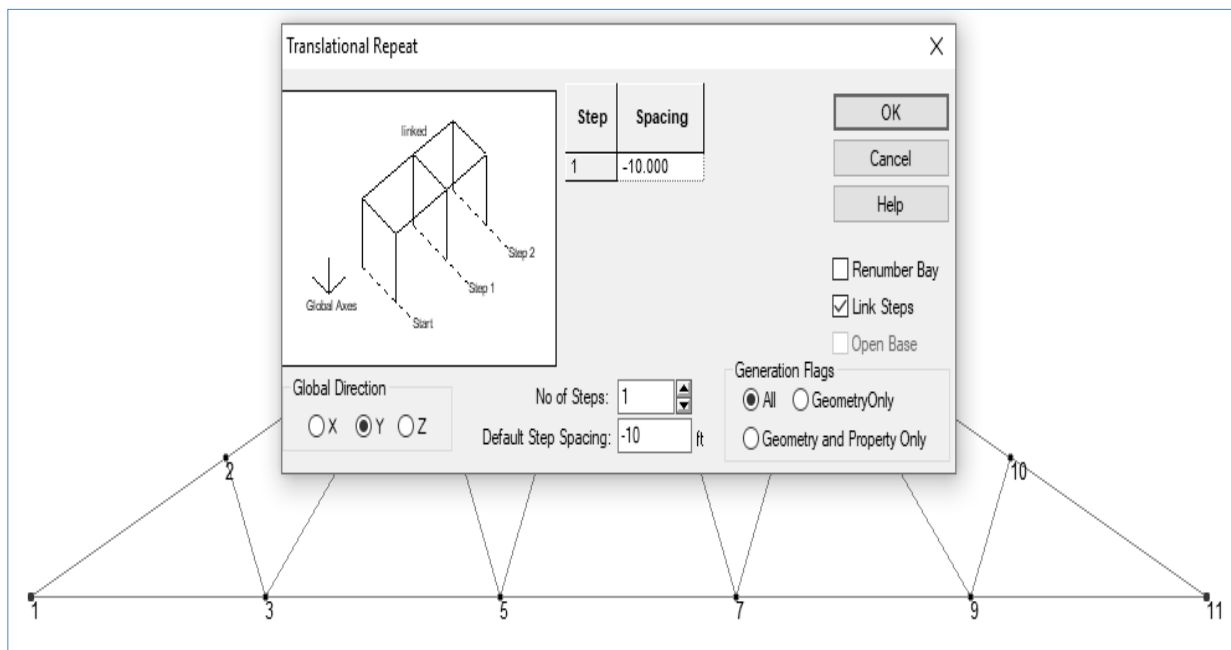

Fig: 4.6
1.3 Now Select the Nodes 1 & 11 (in View window) by using node cursor → Translational Repeat → Global Direction = Y → No. of Steps = 1 → Spacing = -10(-ve) → Click on Link Steps → OK (Fig: 4.6)